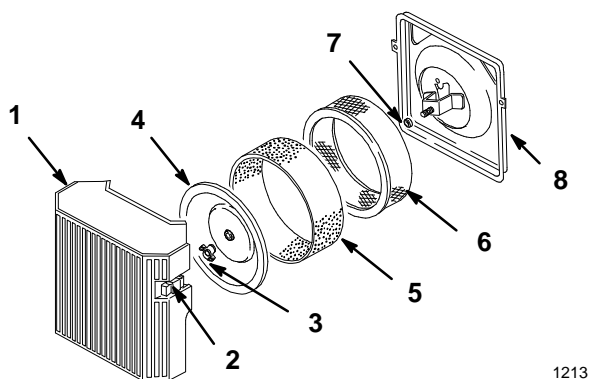

Figure 15
3. Clean around the air cleaner to prevent dirt from getting into the engine and causing damage. Unhook latches and remove the air cleaner cover (Fig. 15).
4. Carefully slide the foam element off the paper element (Fig. 15).
5. Unscrew the cover nut and remove the cover and paper element (Fig. 15).
1. Carefully slide the foam element onto the paper air cleaner element (Fig. 15).
2. Slide the air cleaner assembly and cover onto the long rod. Now screw the cover nut finger-tight against the cover (Fig. 15).
3. Install the air cleaner cover and hook latches (Fig. 15).